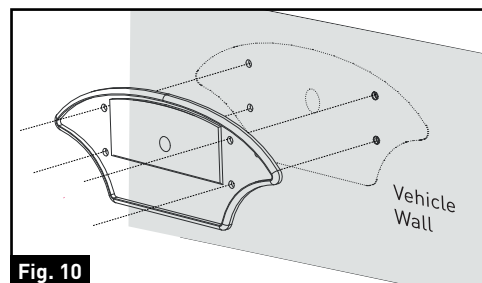

Fig. 10
- Select a suitable mounting position where you are going to install the doorway camera. Mark a basic outline using the provided bracket gasket. (Fig. 10)